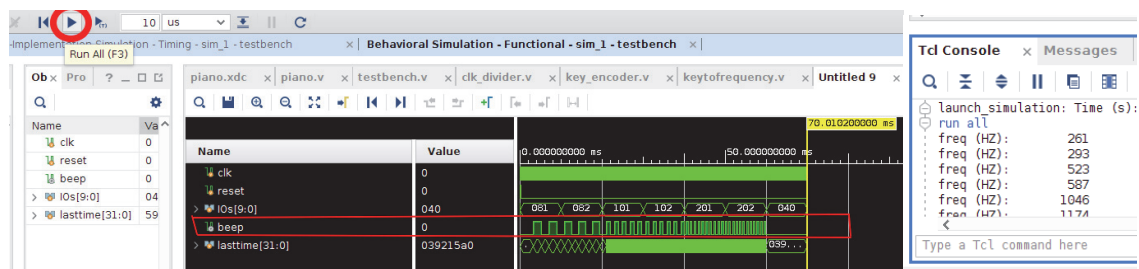

Fig. 5. Observing the change in **beep** signals in Waveform window and the values shown in Tcl Console
- 4.1.6.2 Verify the waveform to see if the **beep** is changing or not as shown in Fig. 5 and the output from Tcl console will display the frequency roughly changing from 261, 293, 523, 587, 1046 to 1174 finally.
- 4.1.6.3 If the output waveform is not as you expected or Fig. 5, you can debug by checking the output of different signal/register values in modules (add them into the waveform window and re-launch simulation)